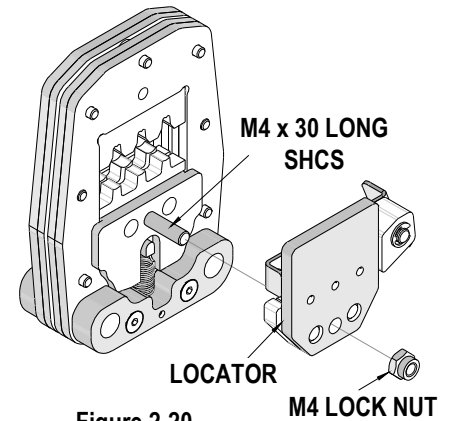

Figure 2-20
1. Locate the (2) pegs on the locator assembly into the mating holes on the back side of the Power Crimp Head.
2. Install and tighten the M4 lock nut. See Figure 2-20.